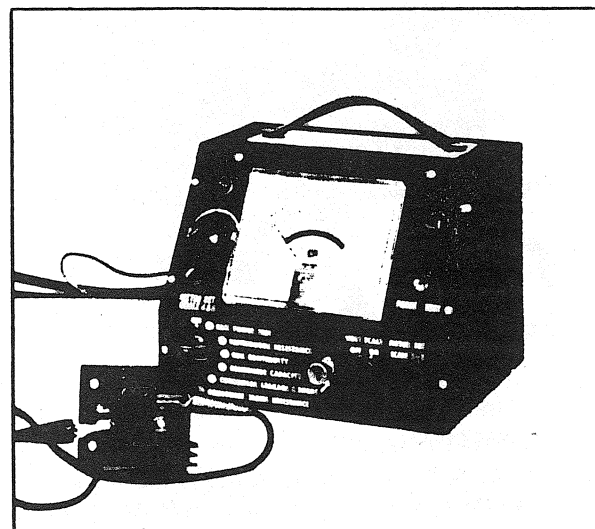

FIGURE 14
- Connect the small **black** lead test to one of the **male terminal** of the rectifier block. (Fig. 14).